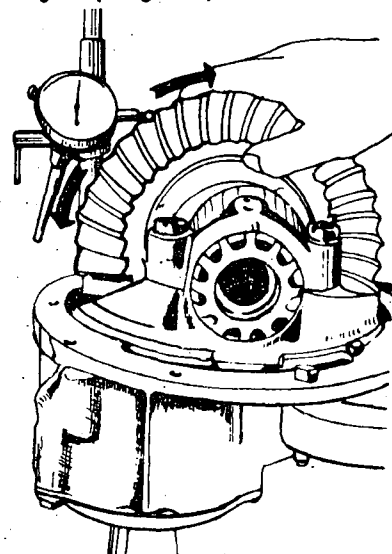

Fig. 8
e) Adjust the play between the crown wheel teeth and the pinion by moving the crown wheel sideways (fig. 8).